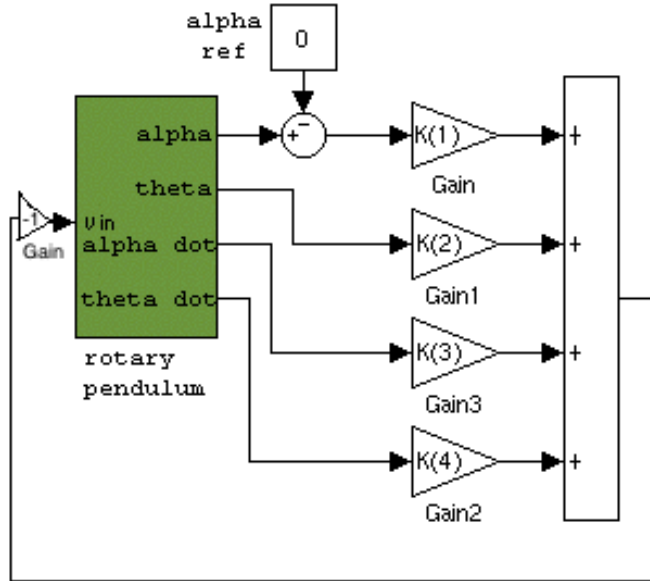

Figure 1: Rotary Pendulum Schematic
2. Modify the file to reproduce the Simulink diagram given in Figure 1.
In Figure 1, the rectangle on the right is a summing block (not a mux), and you can change a round summing block into a rectangular one by double clicking on it and selecting the